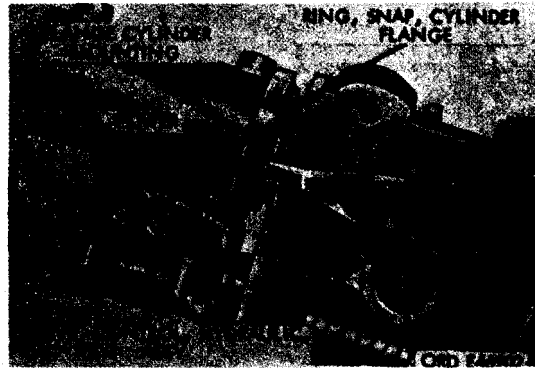
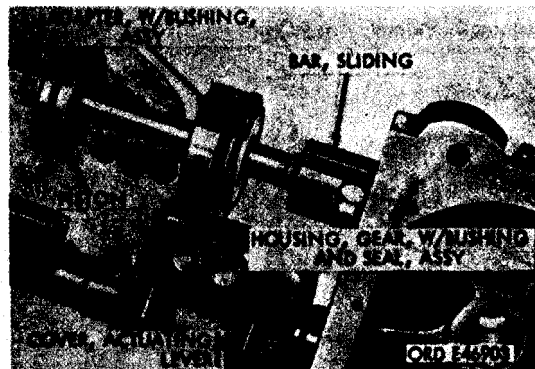

Figure 136. Removing power cylinder Assembly
Figure 137. Removing piston and sliding bar assembly
- (3) Remove four cap screws and lock-washers from cylinder mounting flange (fig. 136). Turn flange 90° to provide clearance at hydraulic control valve assembly, and slide mounting flange on cylinder to expose cylinder flange snap ring (fig. 136). Remove snap ring.
- (4) Slide cylinder mounting flange from power cylinder and pull power cylinder from piston, adapter, and sliding bar. Then, remove cylinder mounting flange and cylinder flange snap ring from sliding bar.
- (5) Pull sliding bar (fig. 137), piston, adapter with bushing assembly, and gasket from gear housing.
- (1) Remove four socket-head cap screws and lift off actuating lever cover (fig. 137) and lever cover seal.